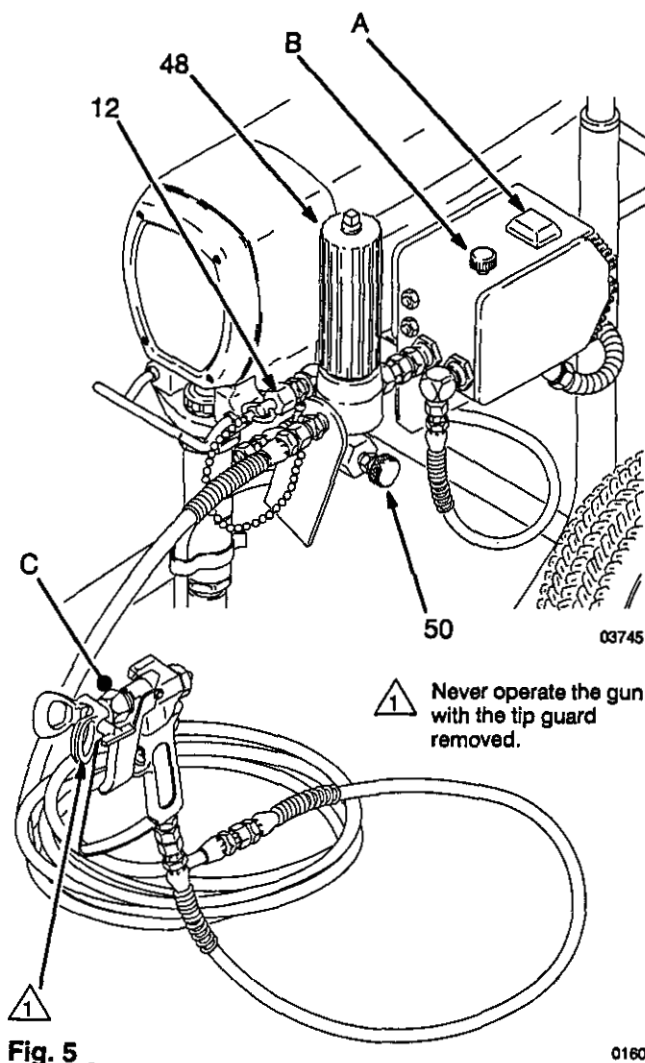
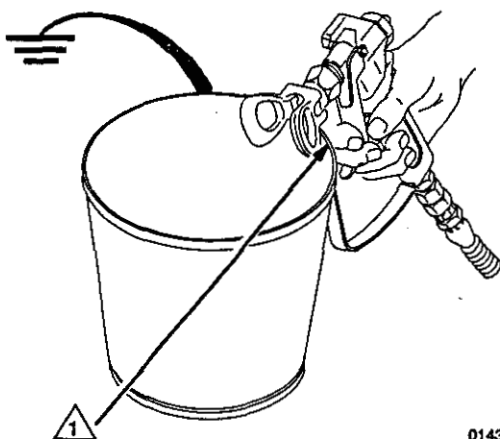
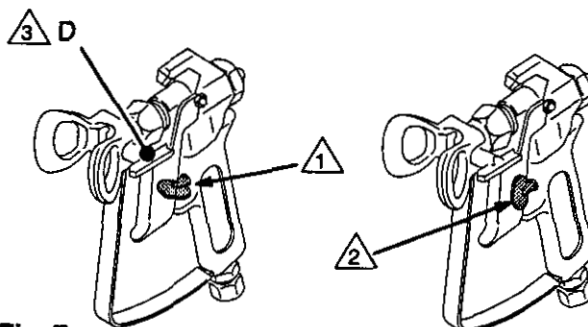

Fig. 5
Fig. 6
Fig. 7
1. **If you have not installed a secondary hose**, be sure the nipple is firmly plugged with the cap. See Fig. 5.
4. **Open the pressure drain valve (50).**
5. **Lower the pressure setting** by turning the pressure adjusting knob (B) all the way counterclockwise. See Fig. 5.
6. **Disengage the gun safety latch.** See Fig. 7.
7. **To prime the pump**, turn the ON/OFF switch (A) to ON, and slowly increase the pressure setting until the sprayer starts. When fluid flows freely from the pressure drain valve (50), close it.
8. **To prime the hose and gun**, hold a metal part of the gun firmly against and aimed into a metal waste container. See Fig. 6. Squeeze the trigger and hold it open. Keep the gun triggered until all air is forced out of the system and the paint flows freely from the gun. Release the trigger and engage the gun safety latch.
10. **Install the spray tip and tip guard.** Be sure the gun safety latch is engaged. See Fig. 7. Install the spray tip. If using the RAC IV tip guard, refer to manual 307-848, supplied with the gun, for installation instructions.
- a. Increase the pressure adjusting knob (B) setting just until spray from the gun is completely atomized. To avoid excessive overspray and fogging, and to decrease tip wear and extend the life of the sprayer, always use the lowest possible pressure needed to get the desired results.
- c. Test the spray pattern. To adjust the direction of the spray pattern, engage the gun safety latch and loosen the tip guard retaining nut (C). See Fig. 5. Position the tip guard horizontally for a horizontal pattern or vertically for a vertical pattern. Then tighten the retaining nut.
2. If the spray tip does clog, release the gun trigger, engage the gun safety latch, and rotate the RAC IV handle (D) 180°. See Fig. 7.
3. Disengage the gun safety latch and trigger the gun into a waste container. Engage the gun safety latch again. See Fig. 7.
4. Return the handle (D) to the original position, disengage the gun safety latch, and resume spraying.